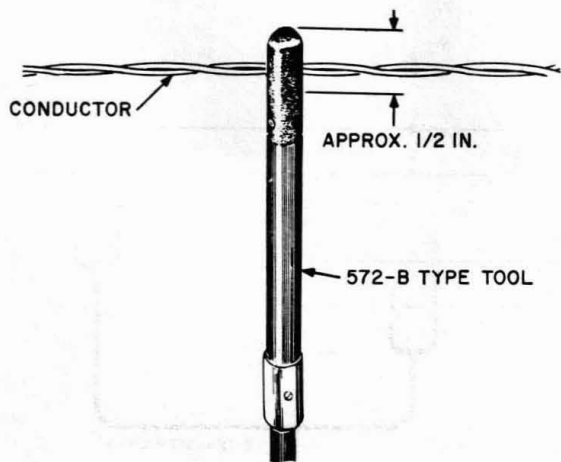

Fig. 4 — Correct Position and Use of 572B Tool
2.04 When using a 572-type probe, maximum signal is obtained when its position with respect to the conductor is as illustrated in Fig. 4.